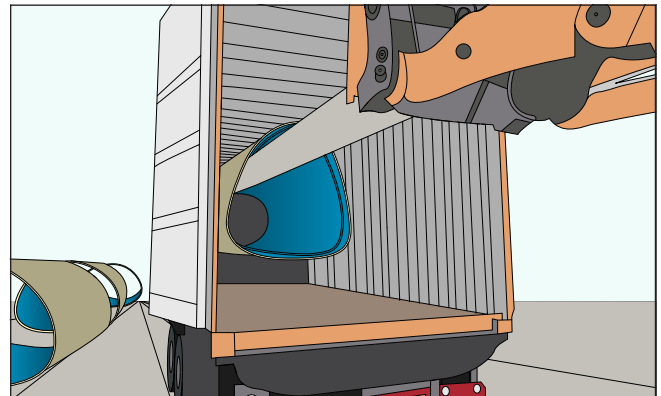

Fig. 10: Unloading from the rear of the truck or container
- From the rear part of the truck using a forklift equipped with a special pin passing through the interior of the pipe (Fig. 10).